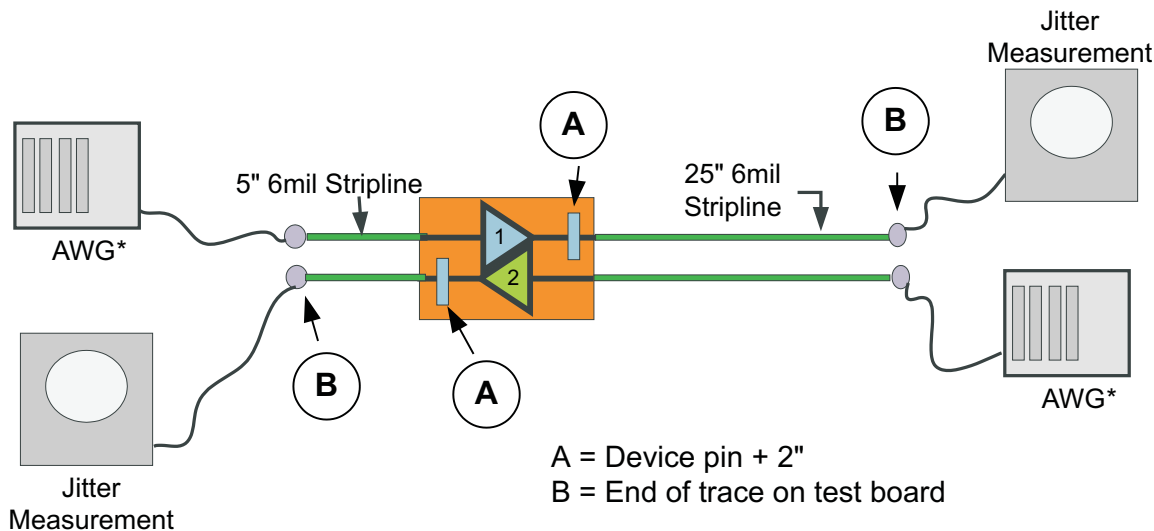

Figure 10. Jitter Measurement Setup
(1) Includes RJ at 10⁻¹²
(2) Refer to Figure 10 with ± K28.5 pattern at 5Gbps, –3.5dB DE from source AWG .